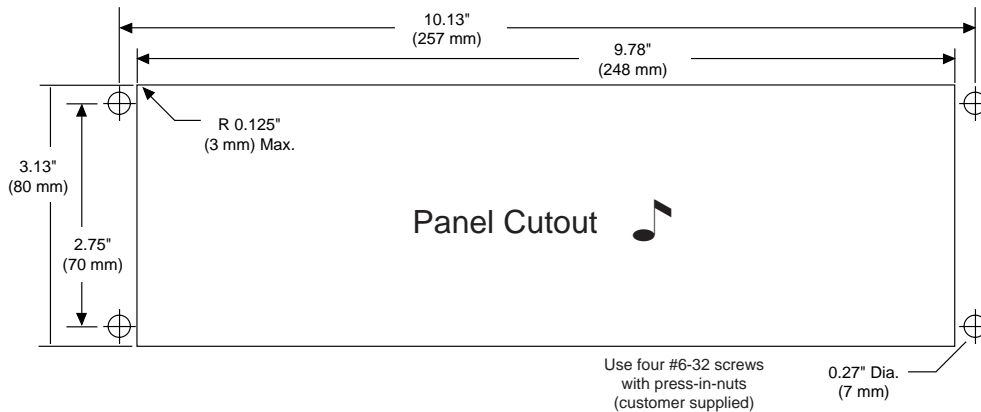

Figure 2 - Panel Cutout.
2. Drill four 0.265 (7mm) diameter holes per the dimensions given above.. See Figure 2.